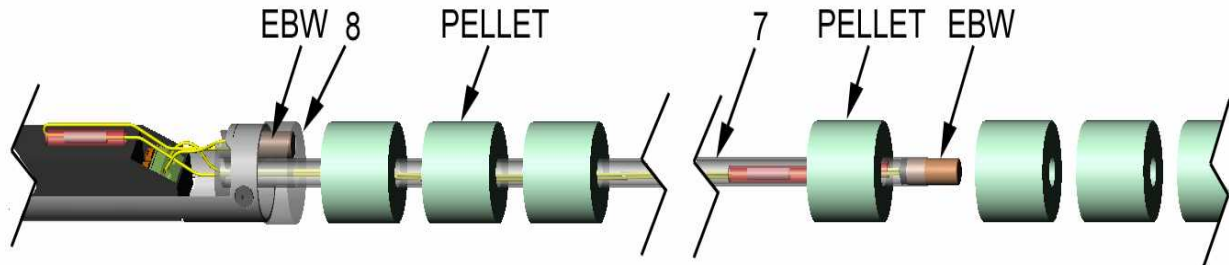

Figure 5: Installation of Pellets onto Center Tube Assembly.
3.4 Install a Pellet onto the bottom of the Center Tube Assembly (item #7) over the Bottom EBW detonator. Slide the Pellet along the Tube until it shoulders up against the Top End Alignment Washer, see Figure 5. The top EBW should be in contact with the explosive Pellet.